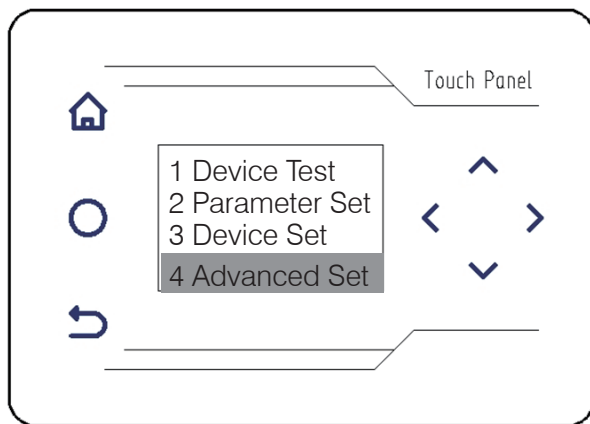
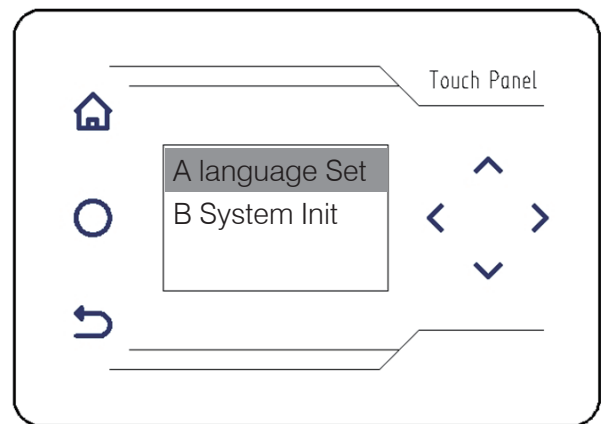

figure 43
figure 44
Press, 、 add/subtract, to select "advanced Settings" (figure 43), press the right button, to enter the sub-menu interface. (figure 44)
A. Language setting (figure 44)
Under the sub-menu interface of "advanced Settings", press, 、 add/subtract, select "initialization system" (figure 43), press the right button, and the system will restore the factory Settings, namely "initialization system".